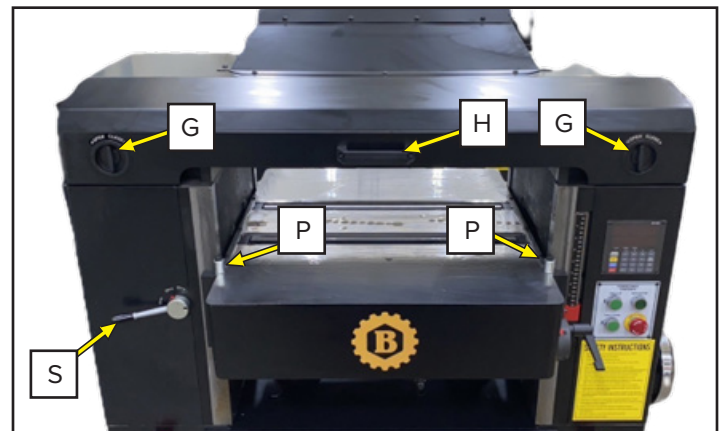

Figure 10: Changing the feed rate
The feed rate handle Figure 10 (S) located on the right-hand side of the table see figure . This planer has three different speeds 20, 25, and 30 feet per minute. To adjust the speed turn the lever figure , until it clicks into place. Change the speed while the machine is running.
The socket head cap screws Figure 10(P) located at the left and right ends of the table are in place to prevent you from running the table into the cutterhead and inserts.
To open the hood first, make sure that the machine is OFF, and the power is disconnected. Secondly, turn both left and right locks Figure 10 (G) to the unlock position then use Handle (H) to lift the hood.